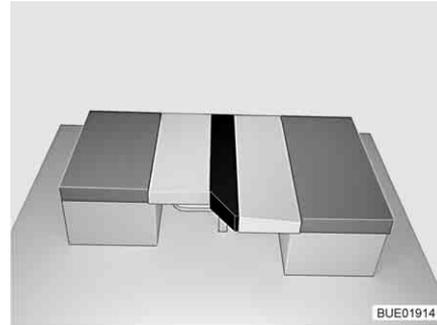

Fig. 99 After conversion
- Insert the additional cushion between the back cushion and the seat cushion as shown (see Fig. 99).